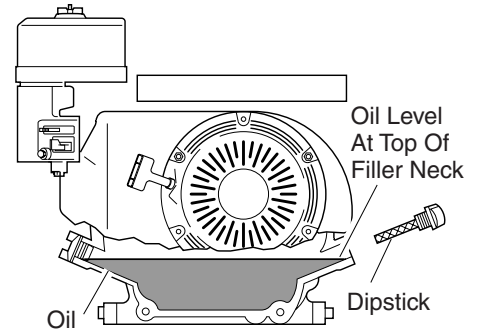

Figure 7 - Checking Oil Level (Model MGH4000D Shown)
- Remove dipstick (see Figure 7). Wipe dipstick clean.
- If level is low, fill to top of oil filler neck (see Figure 7). Only use oil recommended in engine owner's manual.